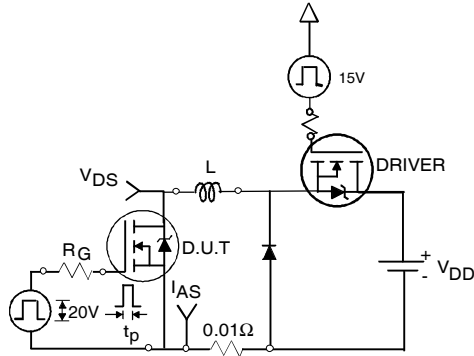

Fig 12a. Unclamped Inductive Test Circuit
3. Equation below based on circuit and waveforms shown in Figures 12a, 12b.
- ③ $I_{SD} \leq 101\text{A}$, $di/dt \leq 210\text{A}/\mu\text{s}$, $V_{DD} \leq V_{(BR)DSS}$, $T_J \leq 175^\circ\text{C}$
- ④ Pulse width $\leq 400\mu\text{s}$; duty cycle $\leq 2\%$.
- ⑤ C_{OSS} eff. is a fixed capacitance that gives the same charging time as C_{OSS} while V_{DS} is rising from 0 to $80\% V_{DSS}$. Refer to AN-1001
- ⑥ Calculated continuous current based on maximum allowable junction temperature. Package limitation current is 95A.
- ⑦ Limited by T_{Jmax} , see Fig.12a, 12b, 15, 16 for typical repetitive avalanche performance.